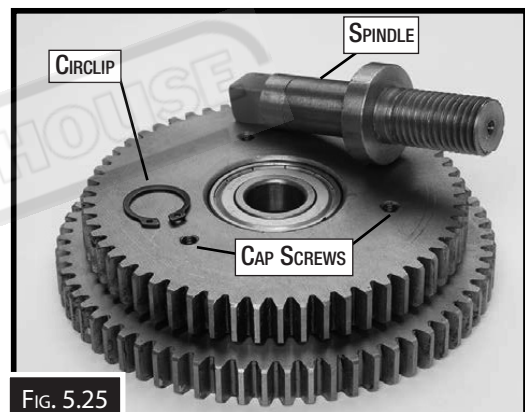

FIG. 5.25
4. Using a 14mm wrench, remove the center spindle and gear assembly (Fig. 5.25).
5. Using retaining ring pliers, remove the circlip from the spindle (Fig. 5.25).